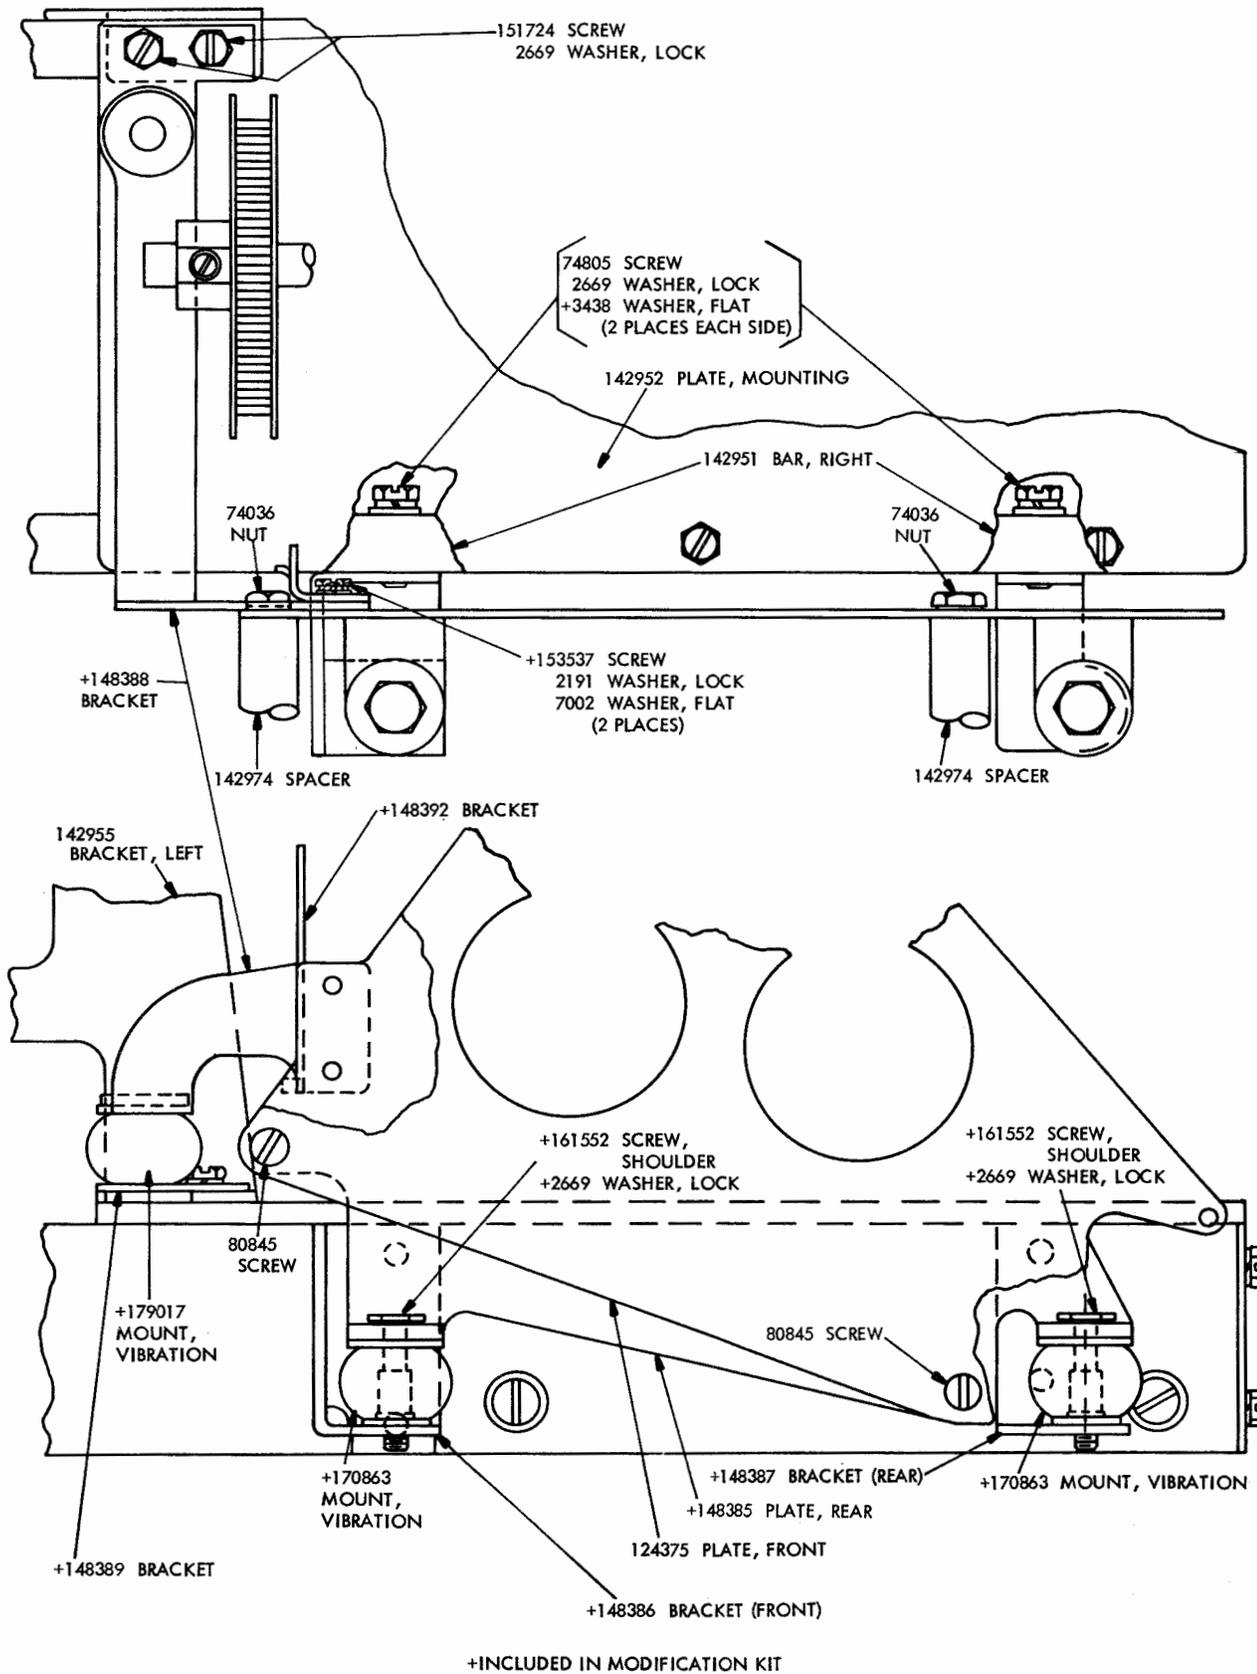

FIGURE 1
2. INSTALLATION (Figures 1, 2 and 3)
g. Remove the 143002 Plate (Rear) by removing the two 74036 Nuts and unhooking the 139770 Tape-Out Torsion Spring. Discard the 143002 Plate. Install the 148385 Rear Plate in place of the discarded plate using the two removed 74036 Nuts. See Figure 1. Rehook the tape-out torsion spring.
h. Assemble the 179017 Vibration Mount to the 148388 Bracket and the 148389 Bracket with the thick flange of the vibration mount in the 148389 Bracket. Assemble the two 170863 Vibration Mounts to the 148385 Rear Plate. See Figure 1.
i. Remove the 142951 Right Bar from the base. Remove the 142971 Strip and 142972 Strip from the right bar by removing the four 74805 Screws and 2669 Lock Washers. Assemble the 148386 Bracket (Front) and 148387 Bracket (Rear) to the right bar using the removed four 74805 Screws and 2669 Lock Washers plus four 3438 Washers. See Figure 1. Reinstall the right bar. Discard the 142971 and 142972 Strips.
k. Assemble the tape reel retainer assembly to the base by placing the 148389 Bracket on the 142955 Left Bracket and secure using the existing two 151724 Screws and 2669 Lock Washers. See Figure 1.
l. Secure the two 170863 Vibration Mounts (previously assembled to 148385 Rear Plate) to the 148386 Bracket (Front) and 148387 Bracket (Rear) using the two 161552 Shoulder Screws and 2669 Lock Washers. See Figure 1.